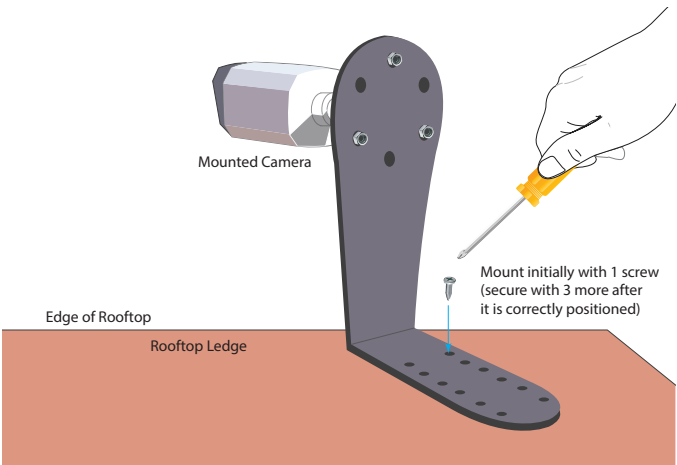

Fig. 2.2
5. Mount the bracket to the rooftop ledge, using just one screw, to begin with. See Fig 2.2.